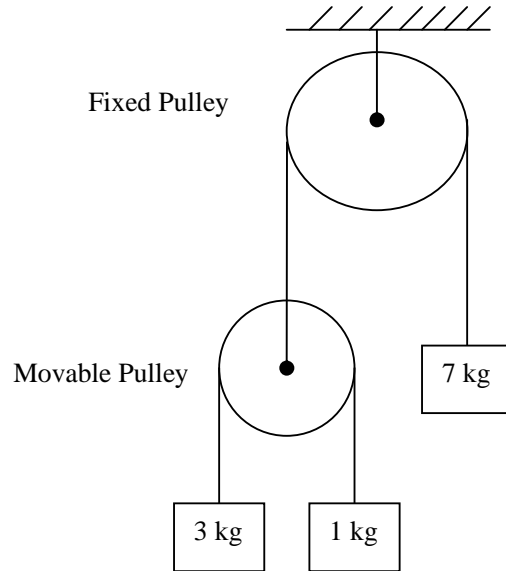

Fig Q3
- (a) the friction force at the sleeve; (12)
- (b) the speed at which the sleeve would begin to fall. (4)
3. Two masses are suspended by a light cord from a light smooth moveable pulley. The moveable pulley is suspended over a fixed light smooth pulley by a light cord with a mass of 7kg attached to the other end of the cord as shown in Fig Q3. The masses are then released from the rest position.